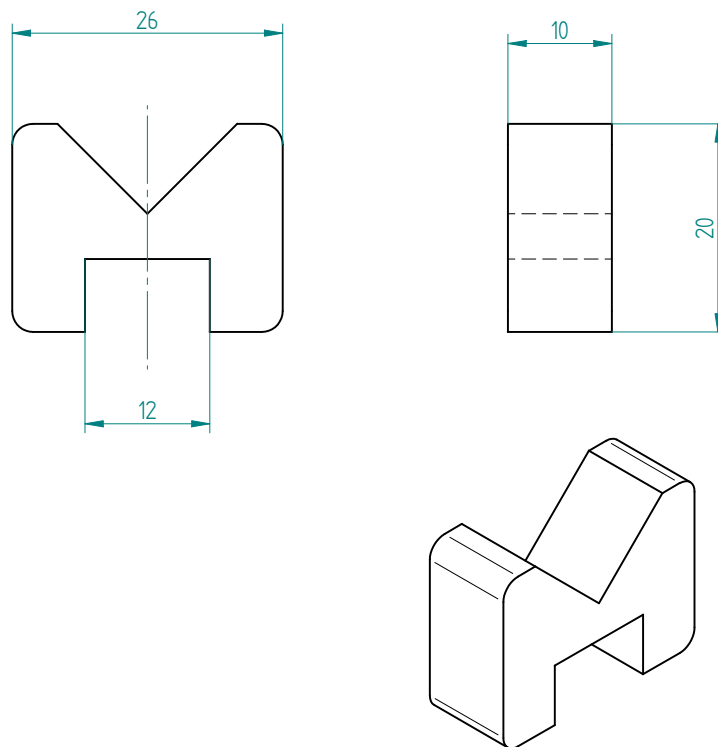

Figure 1.22: **v** drawing for **alignator**
**Drawing** The figure 1.22, page 42, show the drawing of the **spacer**.